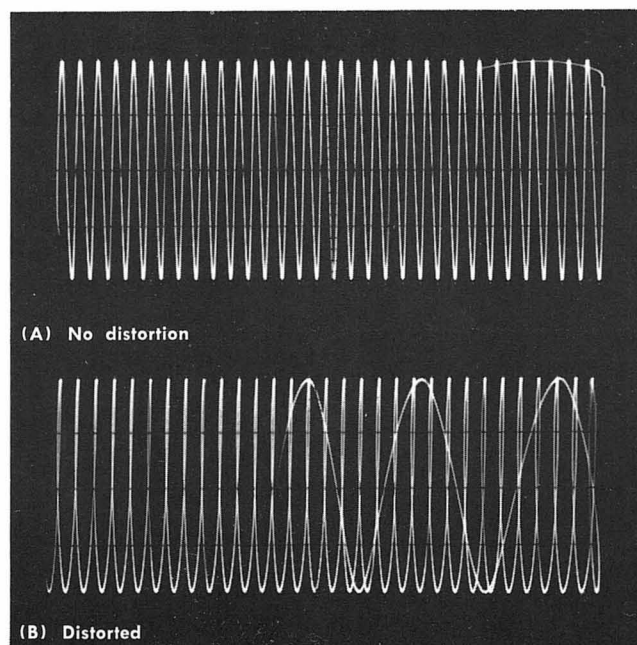

Fig. 5-8. Typical display when checking Y-T capability.
f. CHECK—No significant distortion of display (ignore sweep retrace). See Fig. 5-8.